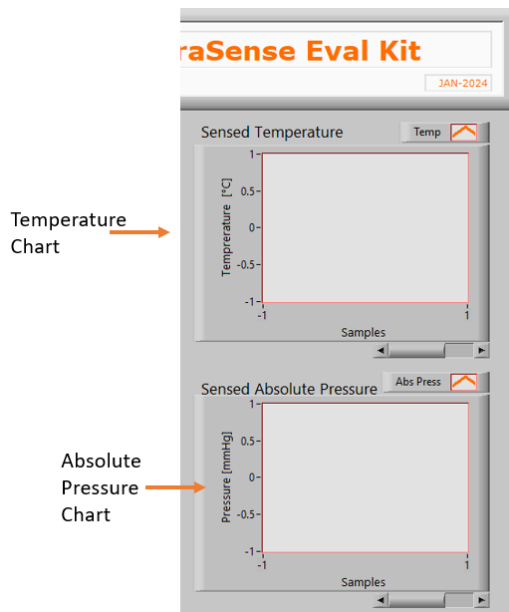

Figure 10. Temperature and Absolute Pressure charts. The user can scroll each chart on the 'X' axis if needed.
- Two charts are placed on the right side of the Front Panel, one for Temperature and another for the Absolute Pressure (Figure 10). Both charts will update themselves by a new measure based on the sampling rate time defined in the `IntraSense_Evalkit.ino` code.